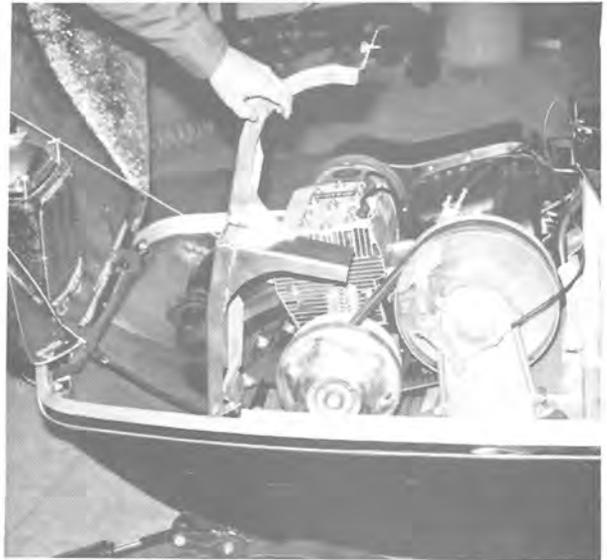

FIG 4-1
1. Raise hood and clutch guard. (See Figure 4-1)